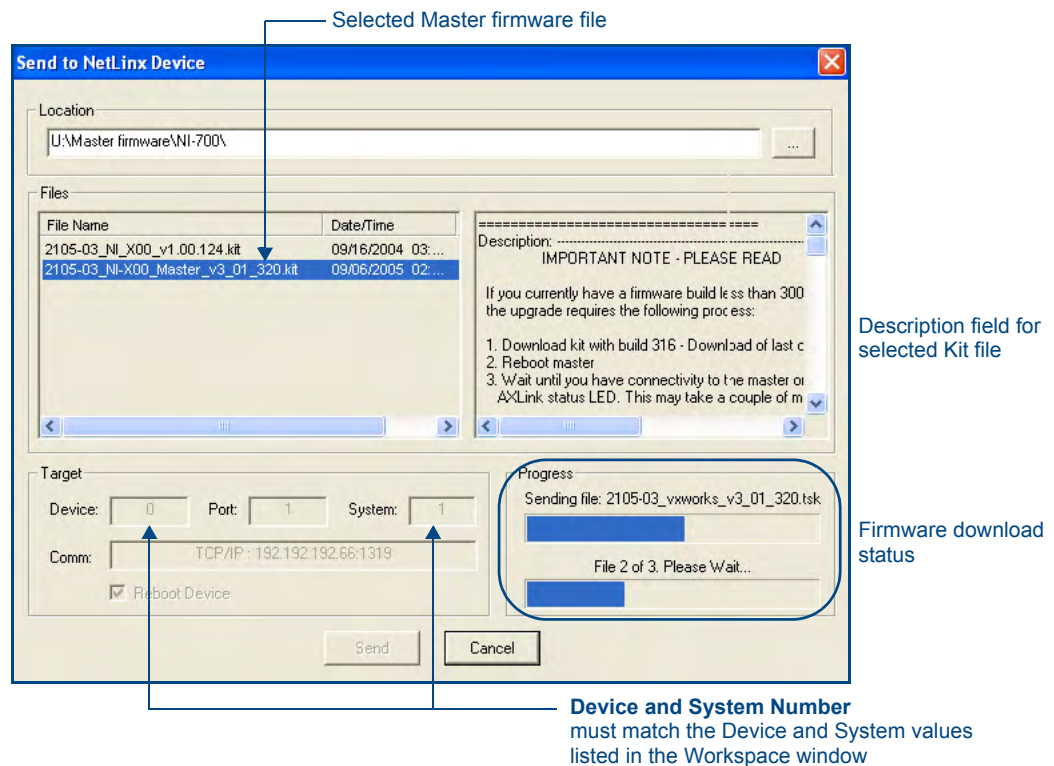

FIG. 6 Send to NetLinX Device dialog (showing on-board NI_Master firmware update via IP)
- In NetLinX Studio, select **Tools > Firmware Transfers > Send to NetLinX Device** to open the Send to NetLinX Device dialog (FIG. 6). Verify the target's System number matches the value listed within the active System folder in the **OnLine Tree** tab of the Workspace.
- Select the NI Master's Kit file from the **Files** section (FIG. 6).
- Click **Send** to begin the transfer. The file transfer progress is indicated on the bottom-right of the dialog (FIG. 6).